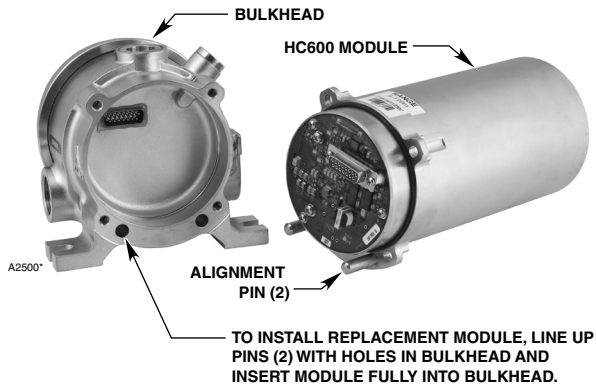

Figure 23—HC600 Module Removed from Bulkhead
5. Line up the two pins on the replacement module with the two holes in the bulkhead and insert the module straight into the bulkhead. See Figure 23.